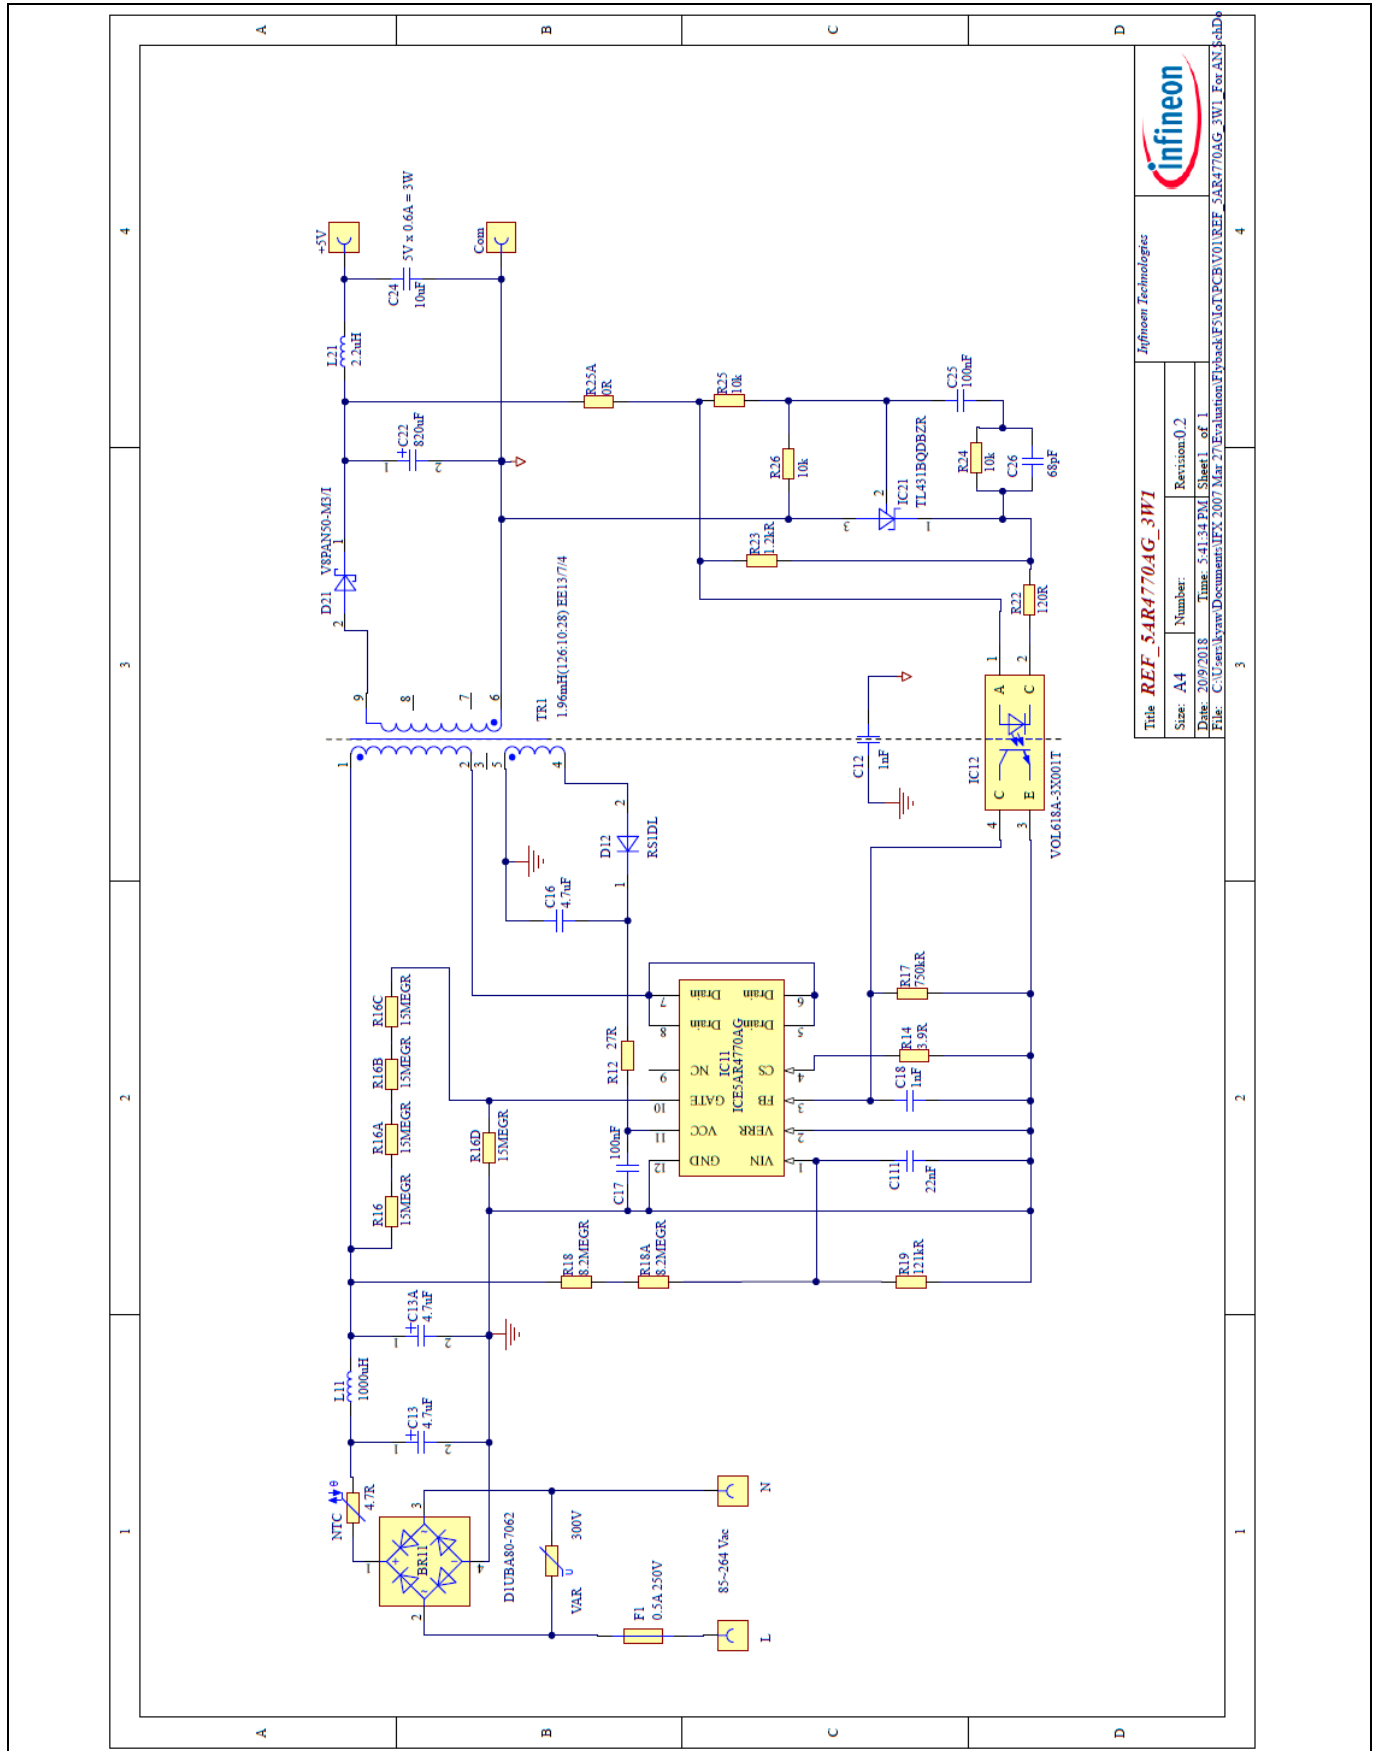

Figure 3 Schematic of REF_5AR4770AG_3W1
Comprehensive protection features are integrated into the FF CoolSET™ ICE5AR4770AG, such as input line OVP, V_{CC} OV, V_{CC} Under Voltage (UV), over-load/open-loop, over-temperature and Current Sense (CS) short-to-GND. It also has limited charging current for V_{CC} short-to-GND and brown-in protection by utilizing $R_{Brown-in}$ (R16D in Figure 3).